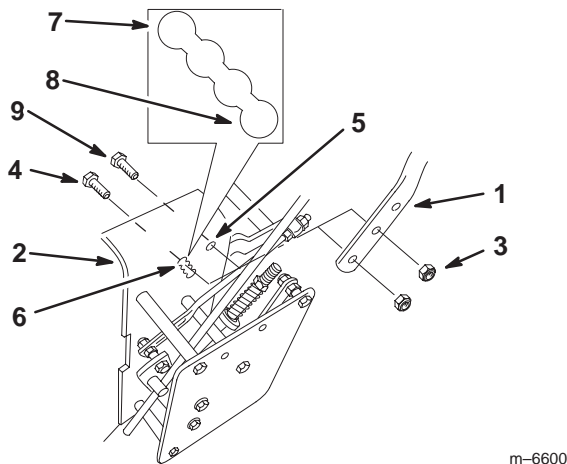

Figure 4
1. Remove the center gage wheel nut, 2 large washers, angle bracket and 1 small washer (Fig. 4). Discard the 2 large washers and the angle bracket.
1. Align handle with upper mounting holes in rear frame (Fig. 4).
2. Secure the handle at each upper mounting hole with a flange bolt (3/8 x 1-1/4 inch) and flange nut (Fig. 4).
3. Select the low position for the lower mounting hole (Fig. 4).
4. Secure the handle at each lower mounting hole with a flange bolt (3/8 x 1 inch) and flange nut (Fig. 4).